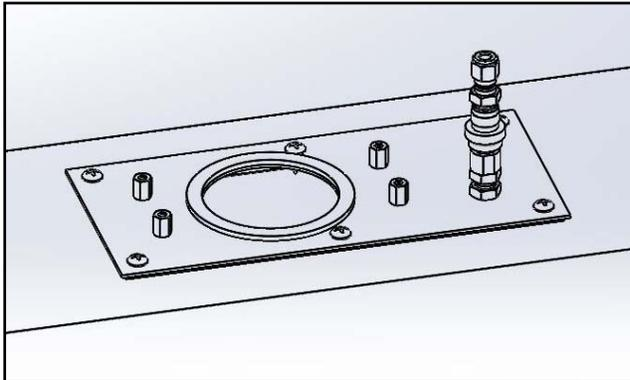

Figure 8
- (5) Once the base assembly is properly aligned, use the holes to mark locations for 1/4" self-tapping screw installation. Attach the duct mount assembly to the duct via 1/4" self-tapping screws (not provided) as shown in Figure 8.